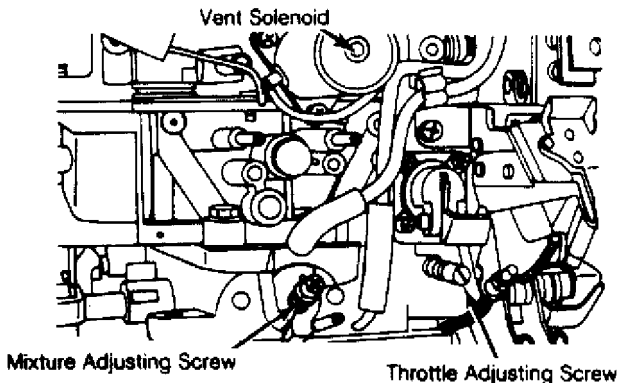

Fig. 4: Carburetor Adjusting Screw Locations
3) To adjust idle mixture, set idle speed to idle set specification by turning throttle set screw (automatic transmission in "N"). Set idle speed to highest RPM obtainable by turning mixture screw. Reset idle speed to idle set specification by turning throttle screw. See Fig. 4.